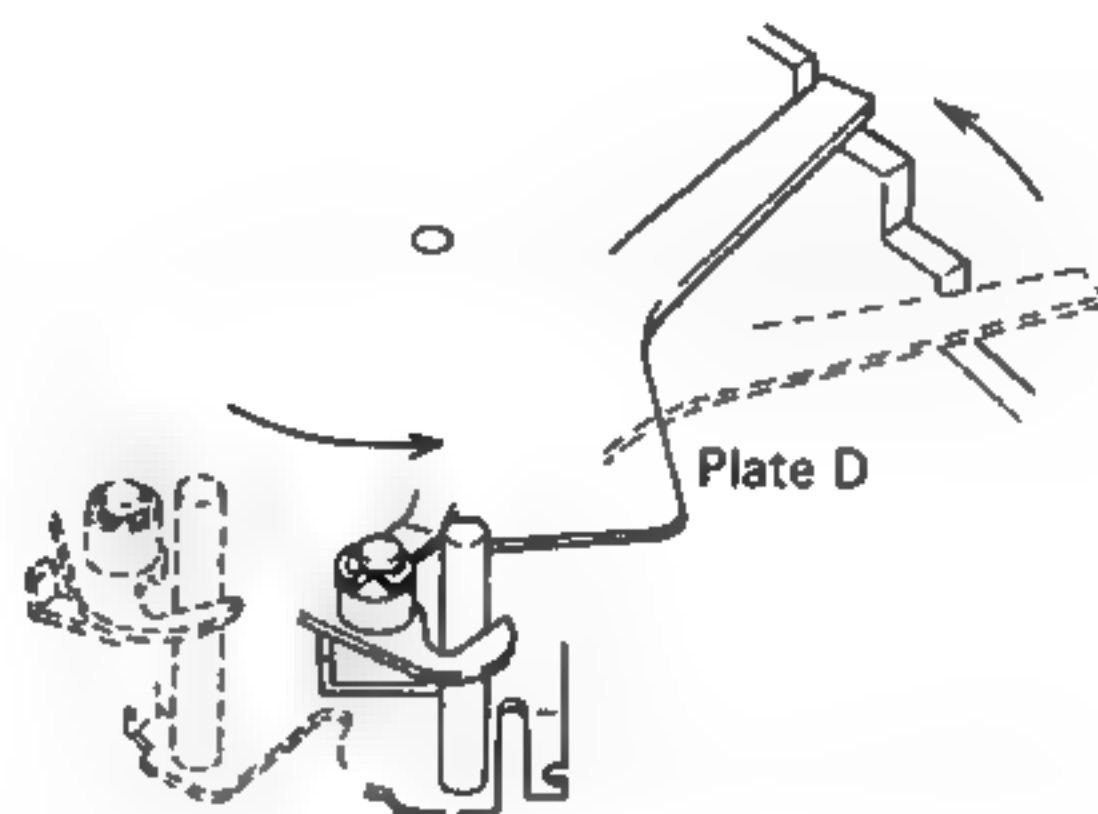

Fig. 4
6. Since cam A rotation continues, plate D moves tonearm to specified position and plate D stops (Fig. 4).